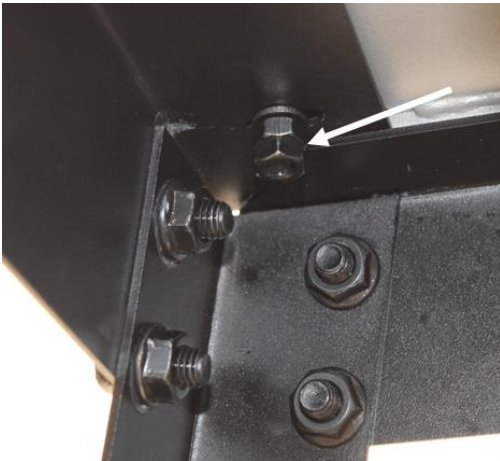

Fig. 18
7. From the underside, place a washer and the two nuts on the bottom of the bolt. (Fig. 18)